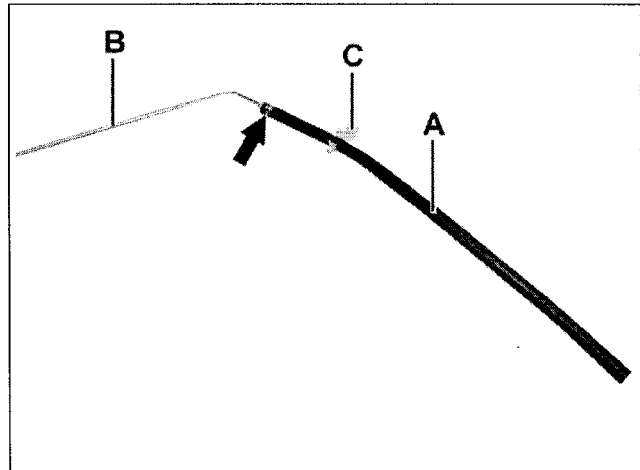

Figure 6
7. Transfer fuel return hose (A, Figure 6):
- Remove fuel return hose (A) from **front** of original (removed) fuel line.
- Connect fuel return hose (A) to **front** (pressure regulator side) of new fuel return line (B) and secure with **new hose clamp** (arrow).
Ensure hose positioning clip (C, Figure 6) is locked onto fuel hose (A) and is located in same position on hose (as it was on previous version hose). Refer to **CAUTION** on following page.
- Ensure ear type (crimp) clamps (arrows, Figures 6, 8, 9) are properly installed to prevent leakage. Visually inspect that clamps are securely locked onto hose after crimping. Use recommended crimping tool (see Special tool section on following page).